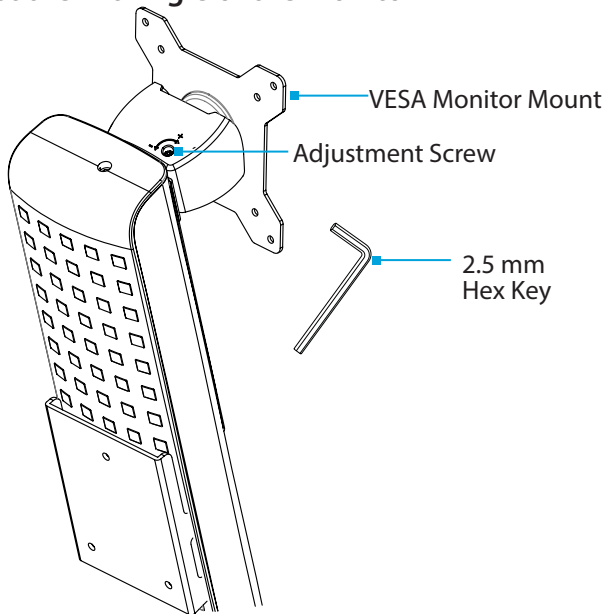

Figure 24
- Adjust the **Screw**, located in the top of the **VESA Monitor Mount**, to increase or decrease the tilt angle of the **Monitor**. (Figure 24)